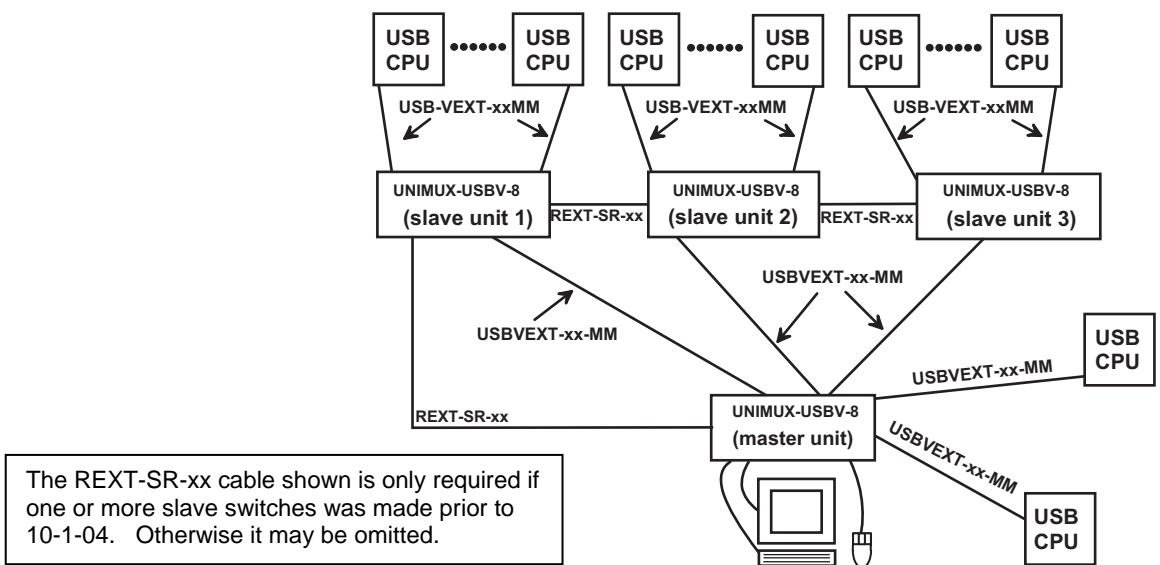
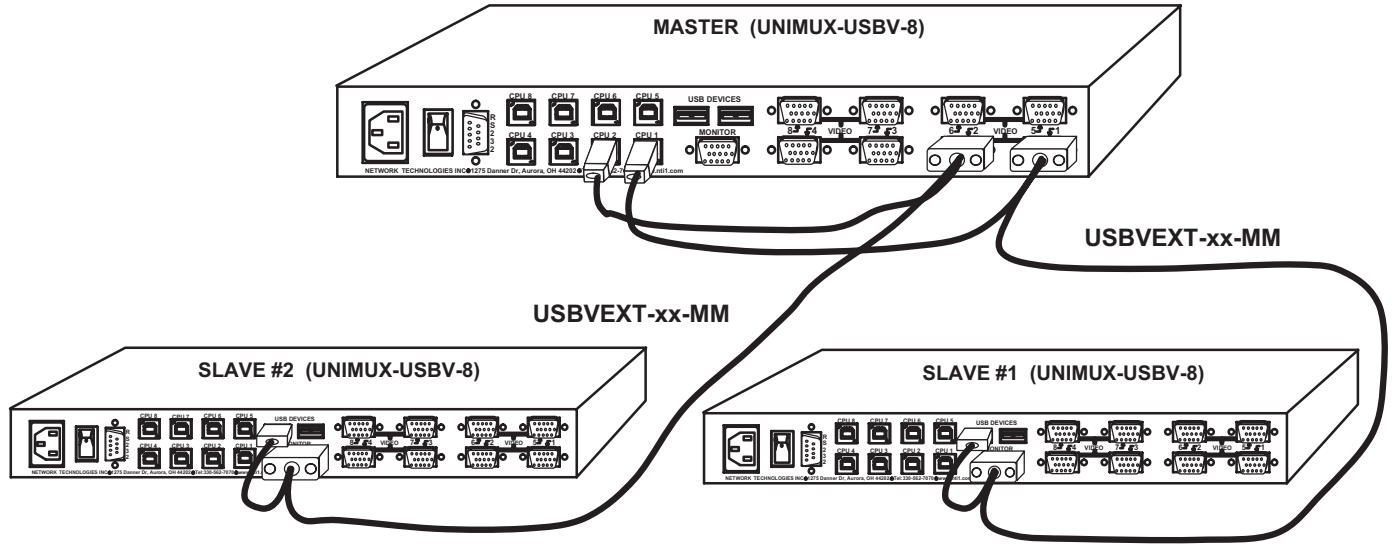

Figure 31- Connections for Cascading
Figure 33- Master-to-slave device cable connections- single-user switches
The UNIMUX-USBV-x USB KVM switch can be cascaded as shown in Fig. 31 below. Single user and multi-user UNIMUX switches may be connected downstream (see Figs.33 and 34). The first switch in a cascaded system is referred to as the "master", while all downstream switches are referred to as "slaves". The only additional hardware required to cascade switches is a set of device and monitor cables for each "SLAVE UNIT" (see MATERIALS on page 1). All CPUs and switches can then be controlled by users using OSD commands with Command Mode.
- d. Repeat step b. & c. for each additional slave, keeping in mind that each slave will connect to the next available master's port (i.e. Slave #2 to master's VIDEO 2 & CPU 2, etc.) See Fig. 33 on page 33.